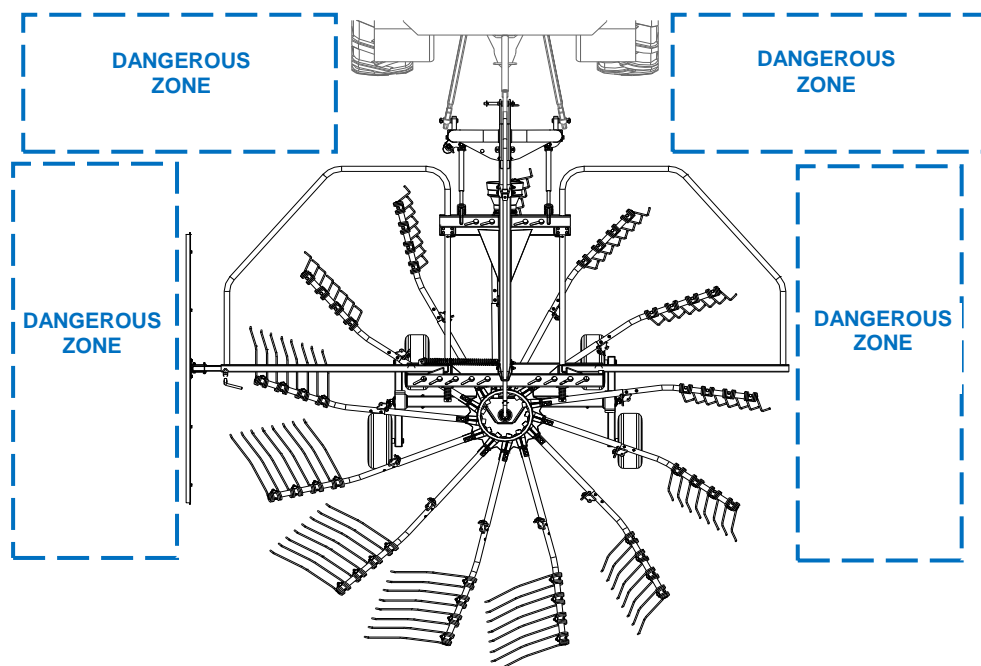

Fig.7
- verify that no people or animals go in the **dangerous zones** of the equipment (shown in fig.7), because they are not conscious of possible dangers;